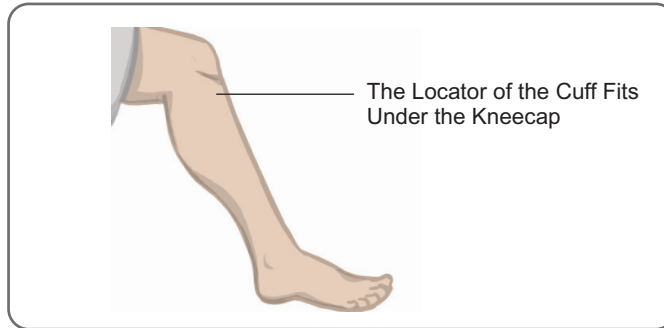

Figure 6-11: Recommended Knee Angle for Positioning the Lower Leg Cuff
1. While seated, slightly straighten your leg as shown in Figure 6-11. The outline of your kneecap should be clearly defined. (Place your foot on a footrest, if necessary.)